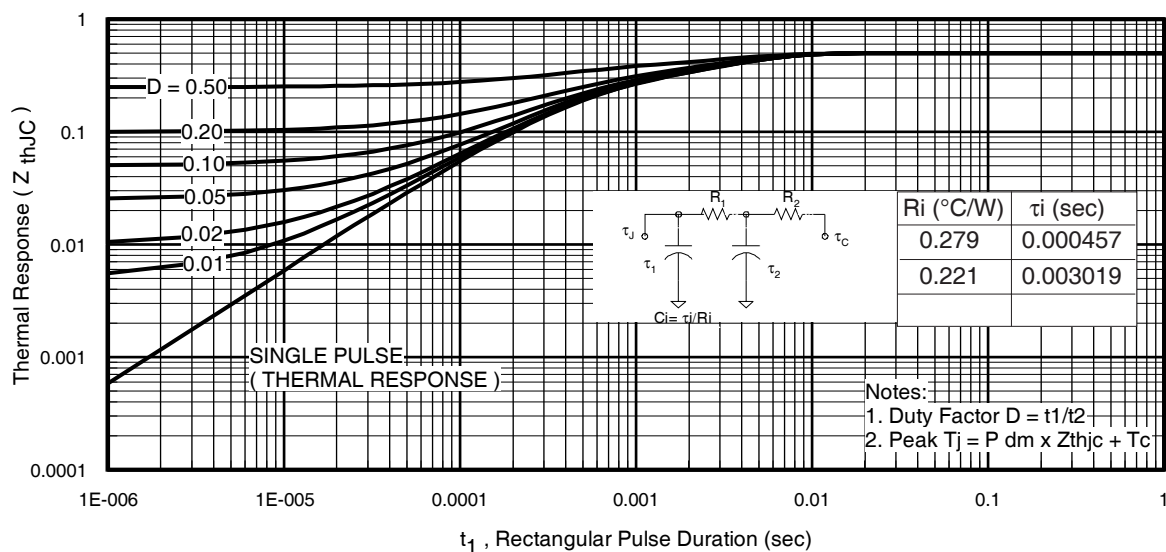
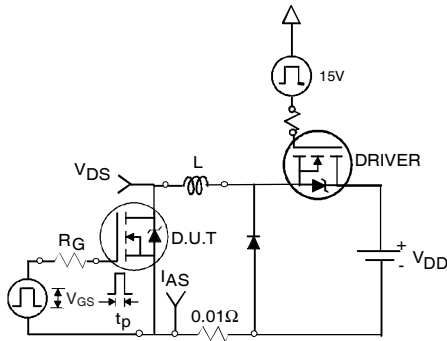

Fig 11. Maximum Effective Transient Thermal Impedance, Junction-to-Case
Fig 12a. Unclamped Inductive Test Circuit
- ① Repetitive rating; pulse width limited by max. junction temperature. (See fig. 11).
- ② Limited by T_{Jmax} , starting $T_J = 25^\circ\text{C}$, $L=0.095\text{mH}$, $R_G = 25\Omega$, $I_{AS} = 75A$, $V_{GS} = 10V$. Part not recommended for use above this value.
- ③ $I_{SD} \leq 75A$, $di/dt \leq 340A/\mu s$, $V_{DD} \leq V_{(BR)DSS}$, $T_J \leq 175^\circ\text{C}$.
- ④ Pulse width $\leq 1.0\text{ms}$; duty cycle $\leq 2\%$.
- ⑤ $C_{oss \text{ eff.}}$ is a fixed capacitance that gives the same charging time as C_{oss} while V_{DS} is rising from 0 to 80% V_{DSS} .
- ⑥ Limited by T_{Jmax} , see Fig.12a, 12b, 15, 16 for typical repetitive avalanche performance.
- ⑦ This value determined from sample failure population. 100% tested to this value in production.
- ⑧ This is applied to D²Pak, when mounted on 1" square PCB (FR-4 or G-10 Material). For recommended footprint and soldering techniques refer to application note #AN-994.
- ⑨ R_θ is measured at T_J of approximately 90°C .
- ⑩ TO-220 device will have an R_{th} of 0.45°C/W .
3. Equation below based on circuit and waveforms shown in Figures 12a, 12b.
$Z_{thJC}(D, t_{av})$ = Transient thermal resistance, see figure 11)